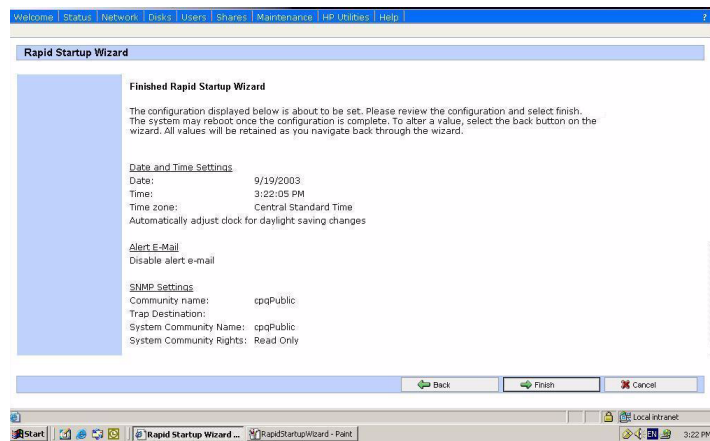

Figure 4: Rapid Startup configuration review screen
8. Verify that the information is correct when the configuration review screen is displayed as shown in Figure 4.